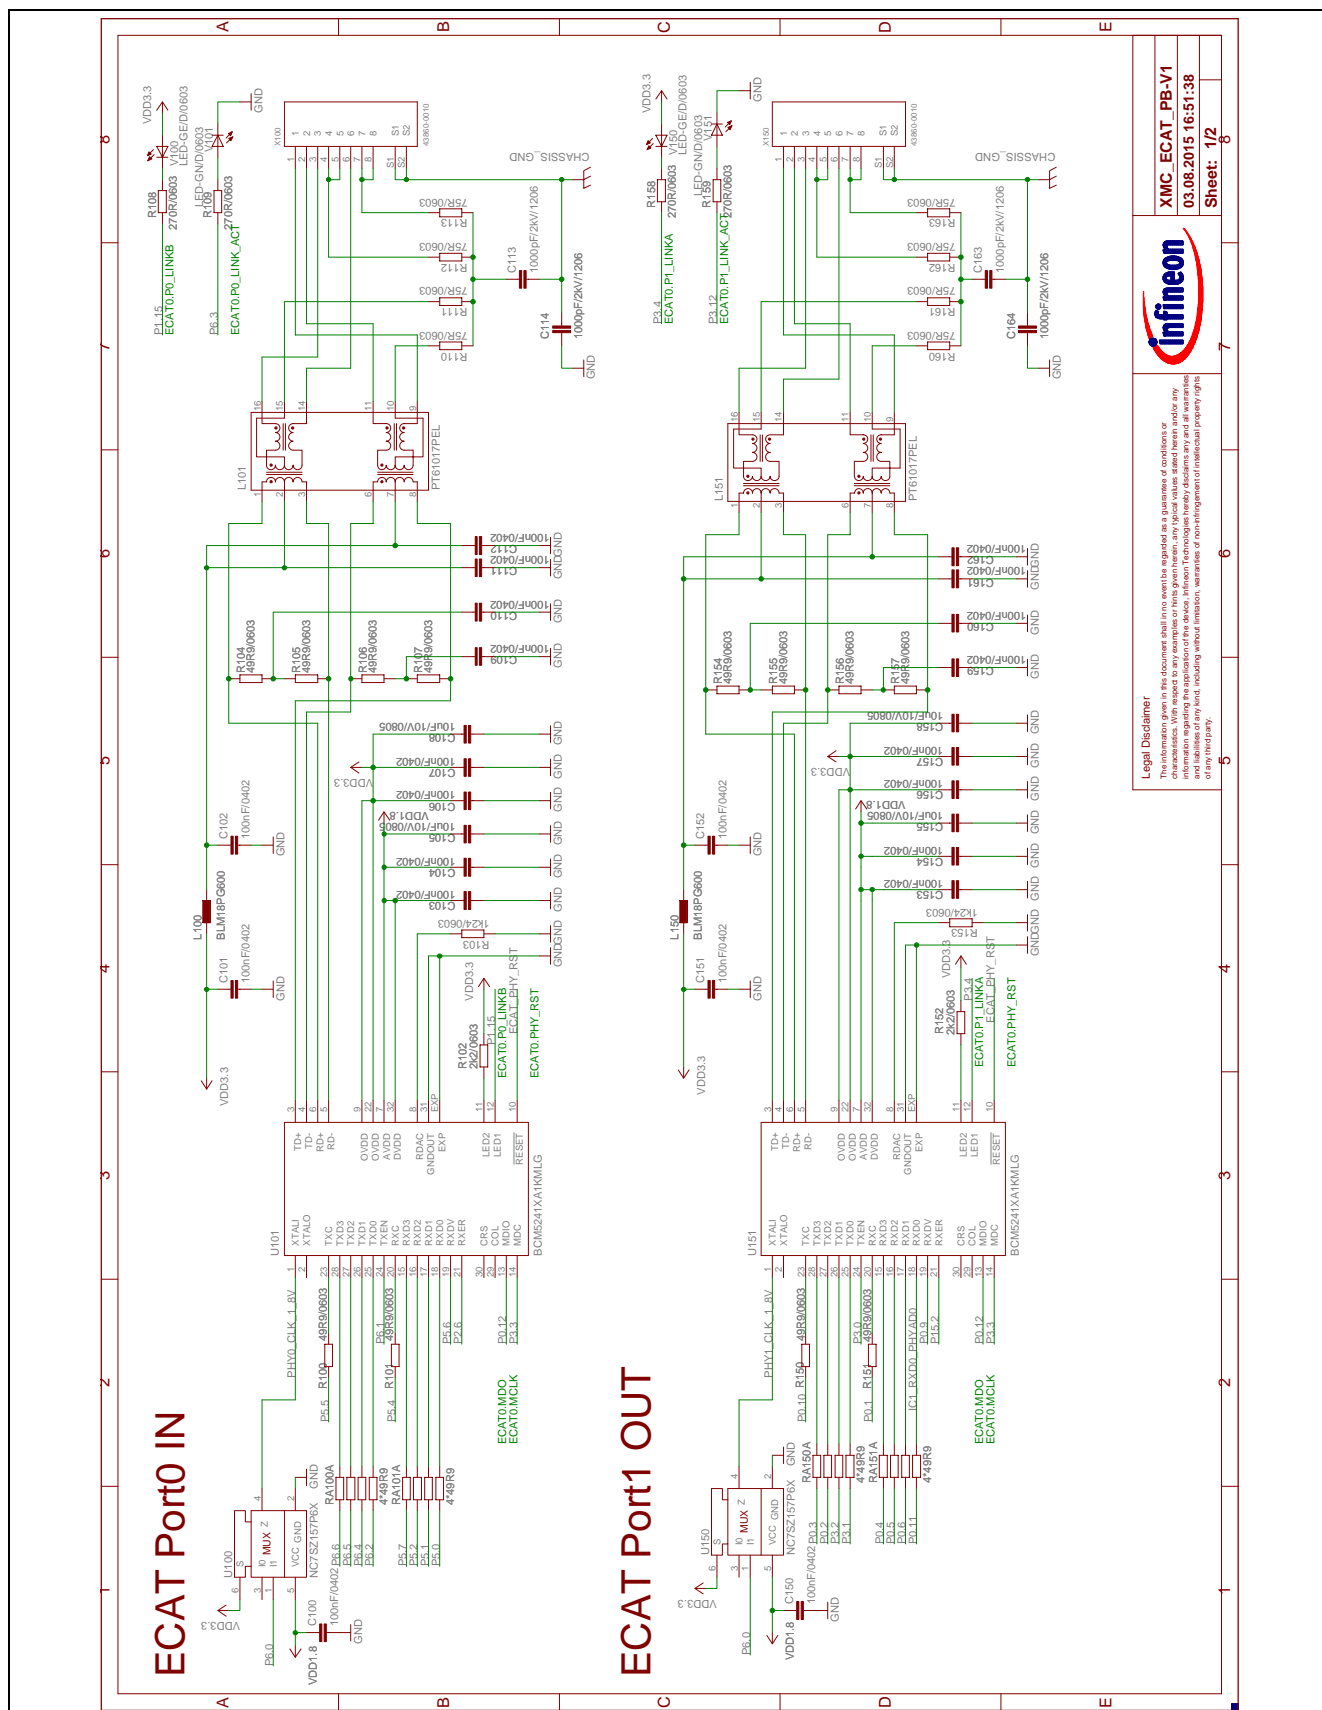

Figure 12 XMC EtherCAT Phy Board Schematic: Input and Output Phy
- Figure 12: XMC EtherCAT Phy Board Schematic: Input and Output Phy